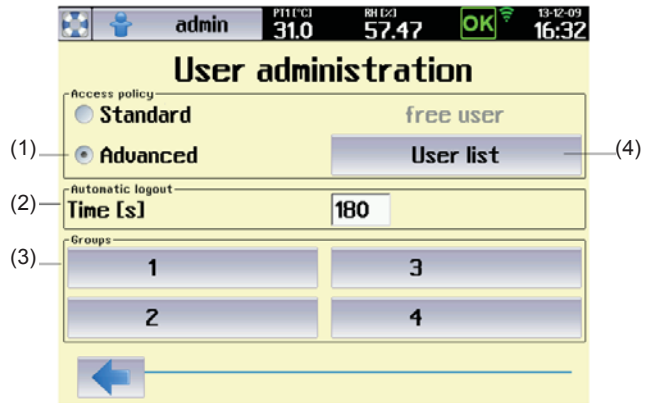
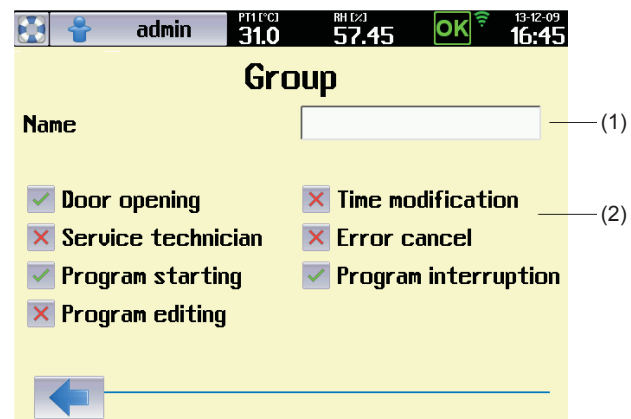

Fig. 16
Fig. 17
- (1) Selection of user administration mode.
- (2) Automatic logout time.
- (3) Definition of groups.
- The administrator may place operators in up to four groups with different user rights, see Fig. 17
- (4) Definition of users.
Definition of group, See (3), Fig. 16.
- (1) Group name.
- (2) Definition of group access rights.
User editing. See (4), Fig. 16.
- (1) Operator name
- (2) Operator password.
- (3) Allocating operator to group
- See Fig. 16, Fig. 17.